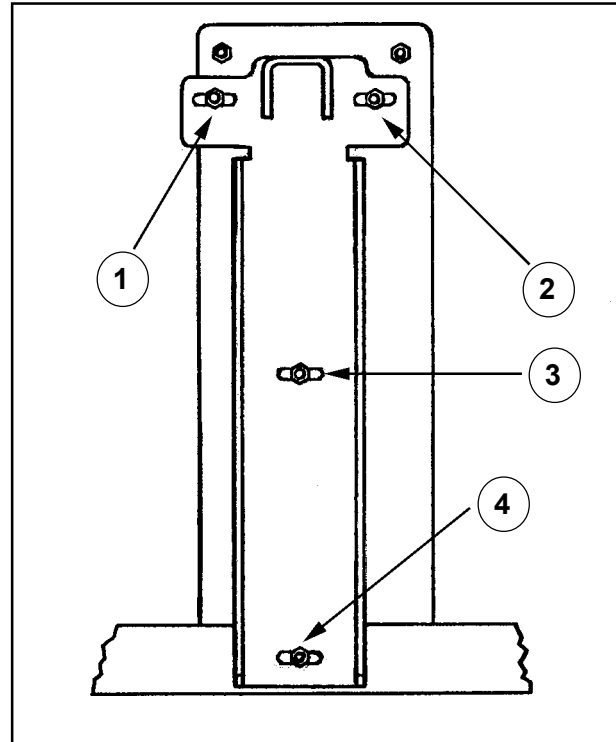

Figure 35
6. Locate the four mounting studs on the brush head bracket. See figure 35. The top two mounting nuts can be accessed through the top of the solution tank. The lower two can be accessed through the front. Loosen the four mounting nuts 2 to 3 turns counterclockwise. NOTE: Do not remove mounting nuts.